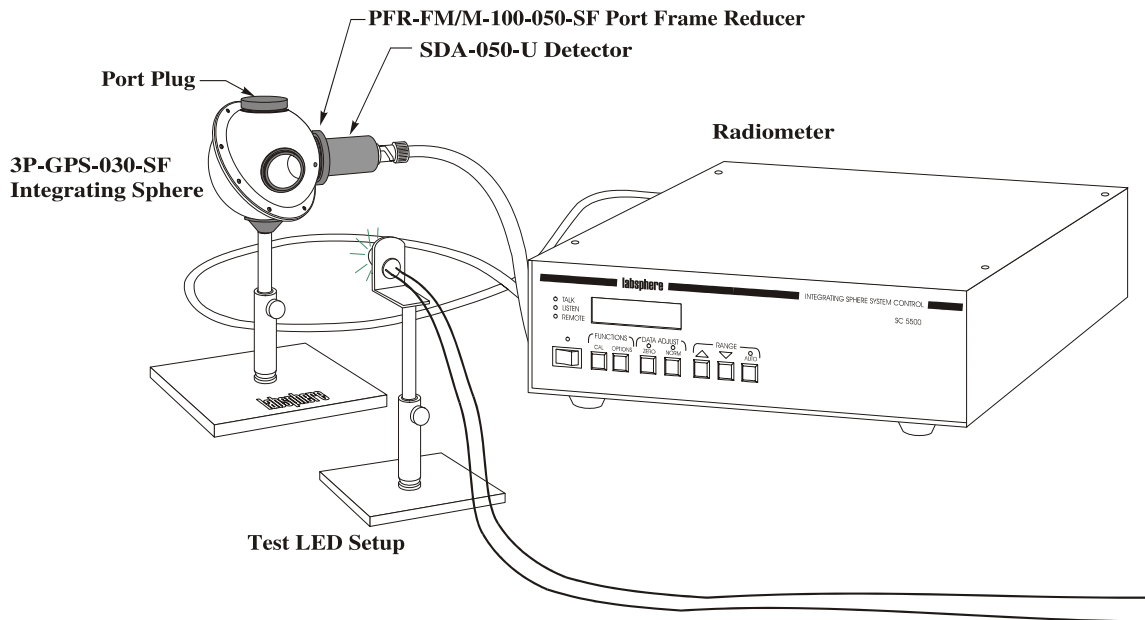

Figure 23. Application setup for measuring total flux from a light-emitting diode.
1. Configure the sphere assembly to the illustration in Figure 23 or as described in the calibration certificate. Port plugs should be installed over Ports C and D, if applicable. If measuring the output of an LED, the tip of the test device should be even with the internal surface of the integrating sphere.
The following procedure can be used to obtain reasonable accurate radiant flux measurements from a general purpose integrating sphere using a separately procured radiometer and a calibrated LED. Construct a test setup similar to the one in Figure 23. Port plugs should be installed over Ports C and D, if applicable. If an auxiliary lamp is utilized, the illuminator can be installed at Port C in lieu of the port plug.